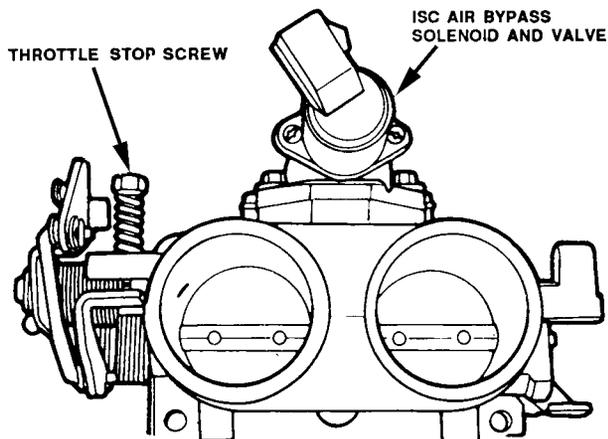

Figure F050-17
4. Back out the throttle stop screw (Figure F050-17 on page F167), to adjust idle speed to 600 \pm 20 rpm (AT) or 700 \pm 20 (MT). Then back the screw out an additional 1/2 turn.
3. Disconnect the ISC air bypass solenoid (Figure F050-17).
5. With the transmission in neutral or park turn the throttle stop screw (Figure F050-17), to set the idle speed to the correct specifications:
3. Place the transmission in drive (AT) or neutral (MT) and let idle speed stabilize.
4. Back out the throttle stop screw (Figure F050-17 on page F167), until idle speed is 600 \pm 20 (AT) or 700 \pm 20 (MT). Then back out the screw another 1/2 turn.
6. To check curb idle speed, start the engine and run it at 1800 rpm for 30 seconds. Place the transmission in drive (AT) or neutral (MT) and let idle speed stabilize. Refer to the VECI decal for curb idle specifications.
4. Back out the throttle stop screw (Figure F050-17 on page F167) to adjust idle to 600 \pm 20 (AT) or 700 \pm 20 (MT) rpm.
3. Disconnect the ISC air bypass solenoid (Figure F050-17 on page F167).
5. With the transmission in park or neutral, turn the throttle stop screw (Figure F050-17 on page F167), to set the idle speed to 675 \pm 50 rpm for AT or 700 \pm 50 rpm for MT